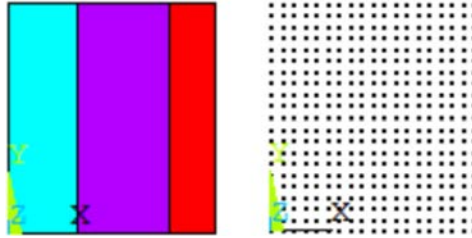

Figure 8-1-4 Area Plot of the Three Areas in the Wall (left) and Plot of the Nodes Attached to Those Areas (right).
- Utility Menu > Plot > Areas (Figure 8-1-4, left)
- Utility Menu > Plot > Nodes (Figure 8-1-4, right).